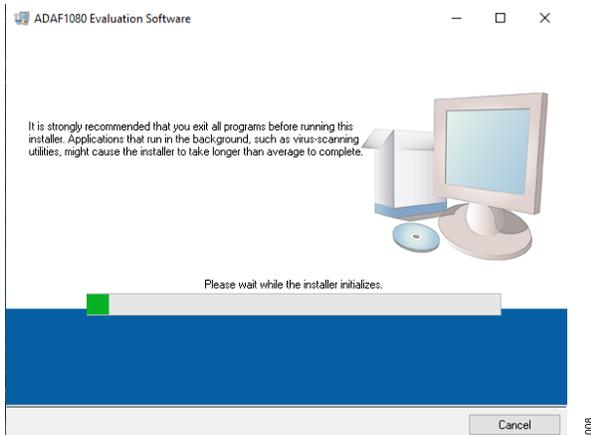

Figure 8. EVAL-ADAF1080SDZ Evaluation Software Install Window
3. Run the **setup.exe** file to begin installing the **EVAL-ADAF1080SDZ Evaluation Software**. The software installation window opens as shown in **Figure 8**.